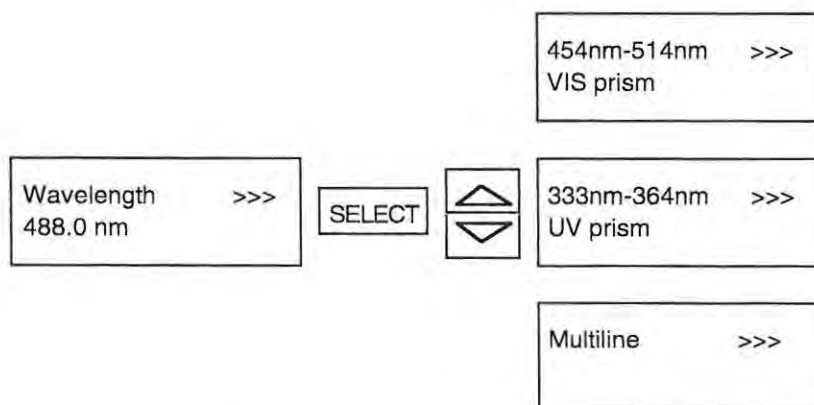

Figure 5-13. General Wavelength Change Example
Consider, as an example, an argon system that has optic sets 4 (UV) and 7 (standard VIS) available for installation. If the current operating configuration recognized by the system software is operation at 488.0 nm with the standard visible optic set and VIS prism single line holder installed, then the second line of the "Wavelength Menu" will display "488.0 nm" as shown in Figure 5-13. The lower level of the "Wavelength Menu" will display the choices shown in Figure 5-13 by pressing the up/down arrows. The first menu choice allows selection of single line wavelengths if the VIS prism single line mirror holder and standard VIS optic set (7) are installed.